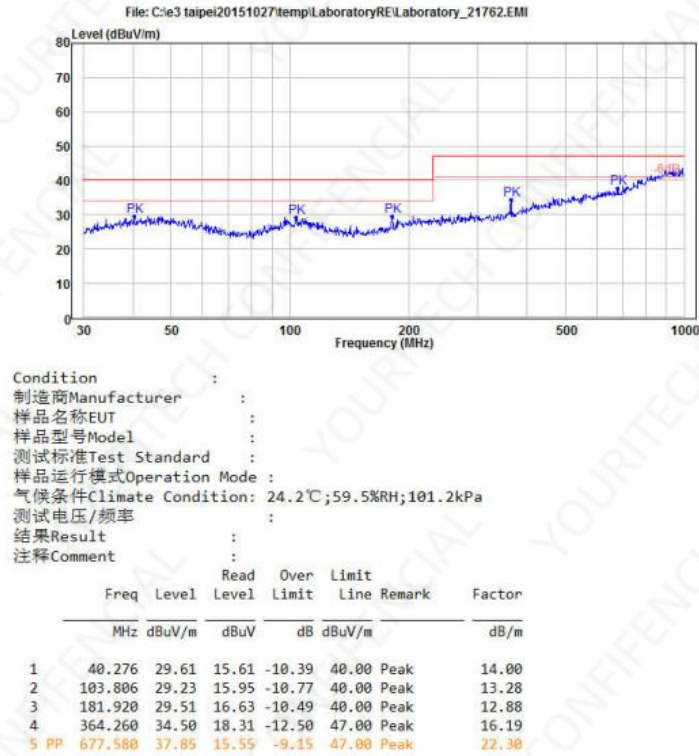

Figure 6-6: Horizontal direction of radiation measurement
1. Radiation test horizontal test data, shown in Figure 6-6.